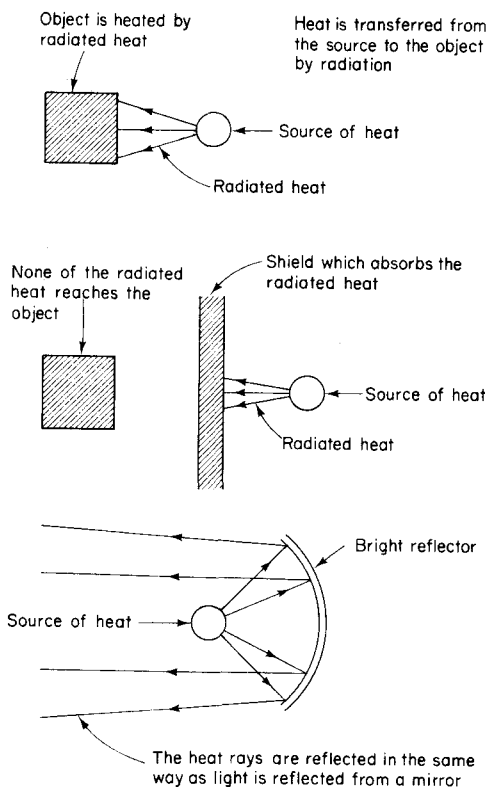

Fig. 2.54 Radiated heat
1. **Radiation** (Fig. 2.54). A person in full view of a fire will get warmer than someone who is shielded from it,